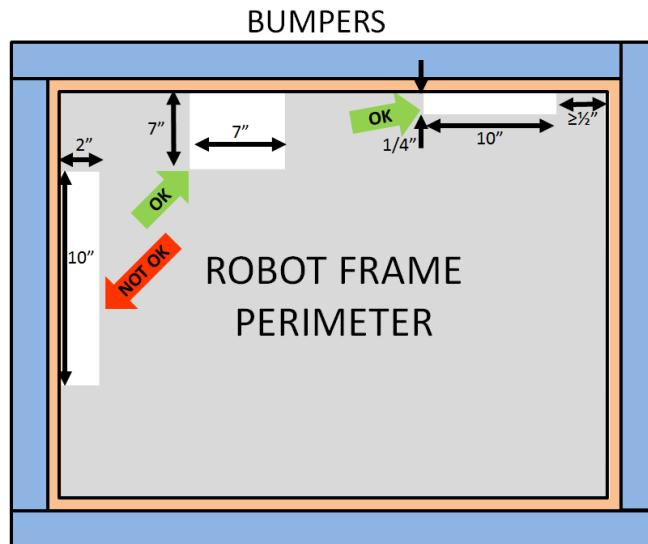

Figure 10-8 BUMPER support examples
**R33.** BUMPERS must be supported by the structure/frame of the ROBOT (see Figure 10-8). To be considered supported, a minimum of  $\frac{1}{2}$  in. (~13 mm) at each end of each BUMPER wood segment must be backed by the FRAME PERIMETER ( $\leq \frac{1}{4}$  in. gap). “Ends” exclude hard BUMPER parts which extend past the FRAME PERIMETER permitted by R31-B. Additionally, any gap between the backing material and the frame: